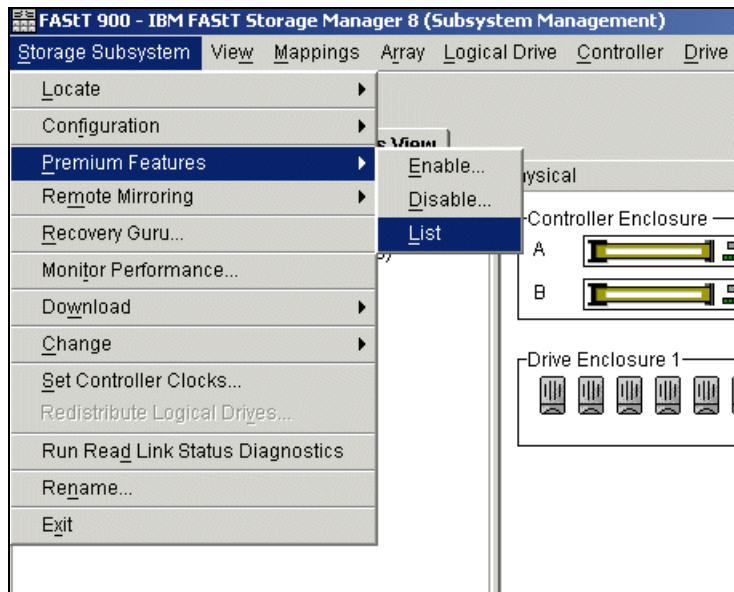

Figure 7-3 Listing premium features
1. From the Subsystem Management window, click **Storage Subsystem -> Premium Features -> List**. Or you can right-click and select **Premium Features -> List** (see Figure 7-3).